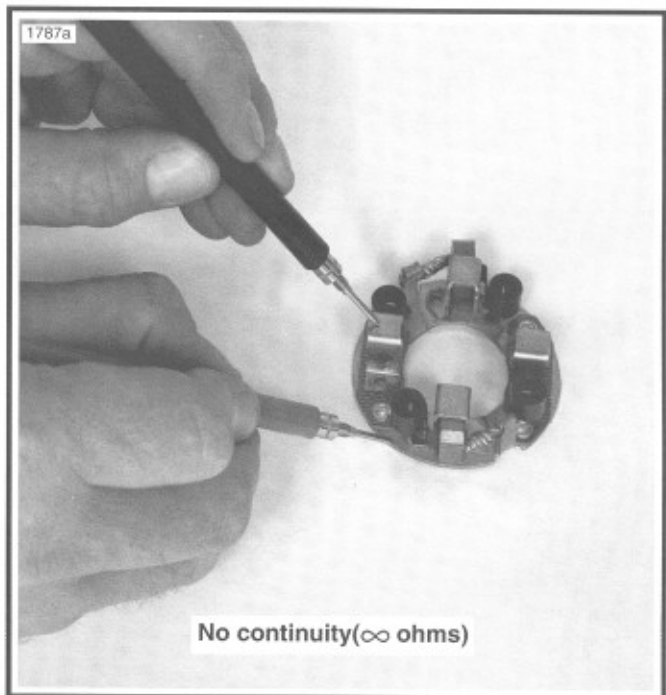

Figure 5-19. Brush Holder Insulation Test
14. See Figure 5-19. Test BRUSH HOLDER INSULATION with an ohmmeter or continuity tester. Touch one probe to holder plate. Touch the other probe to each of the positive (insulated) brush holders. There should be no continuity (infinite ohms). If there is continuity at either brush holder, replace the brush holder assembly.